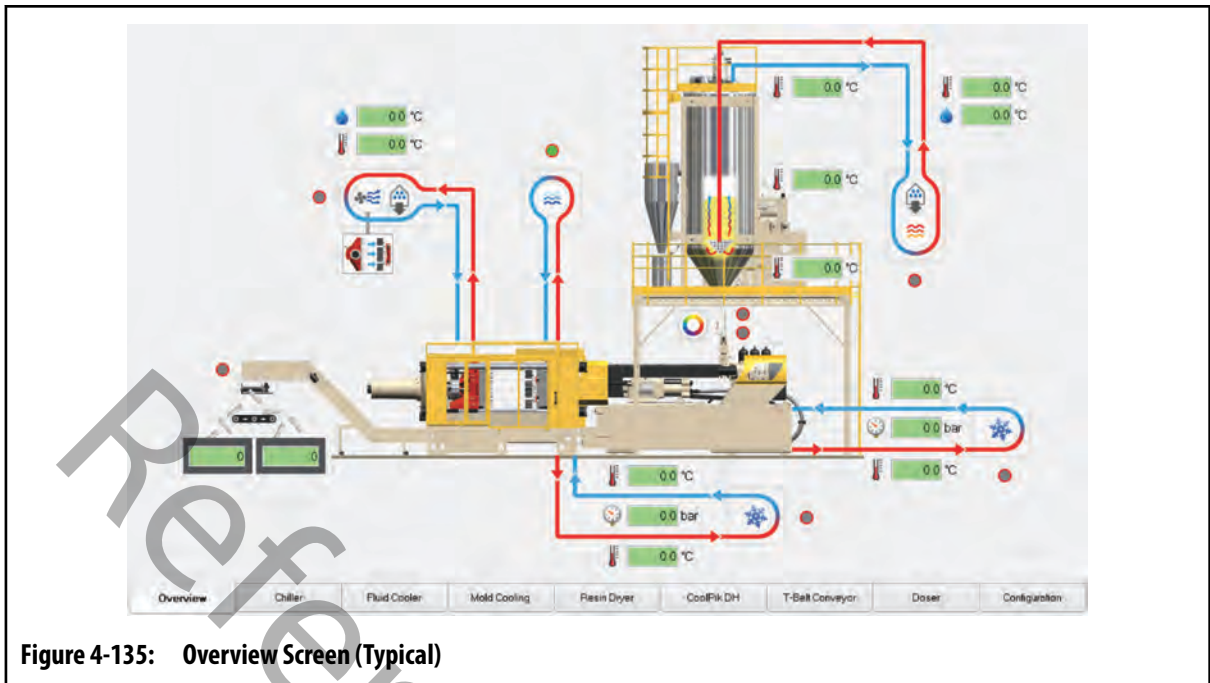

Figure 4-135: Overview Screen (Typical)
1. On the HMI, touch the **Auxiliaries** button, and then touch the **Overview** tab to display the **Overview** screen. Refer to Figure 4-135.